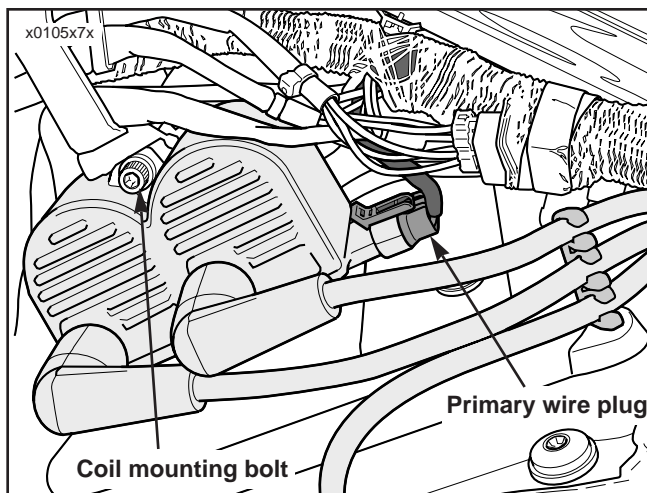

Figure 2. XL1200S Coil
7. See Figure 2. Making note of wiring positions, disconnect primary wire plug from back of coil by gently prying up latch and pulling connector rearward.